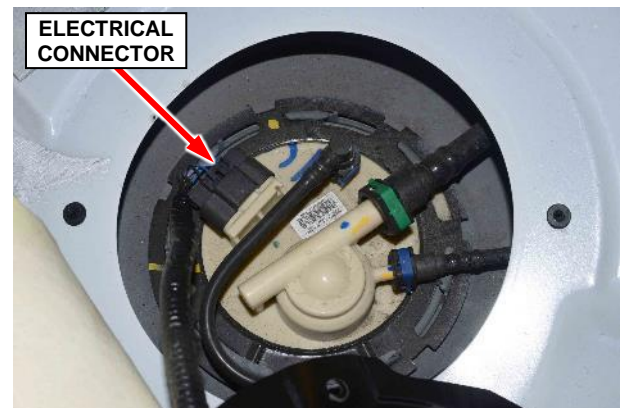

Figure 7 – Fuel Pump Module
8. Disconnect the fuel pump module wire harness electrical connector (Figure 7).